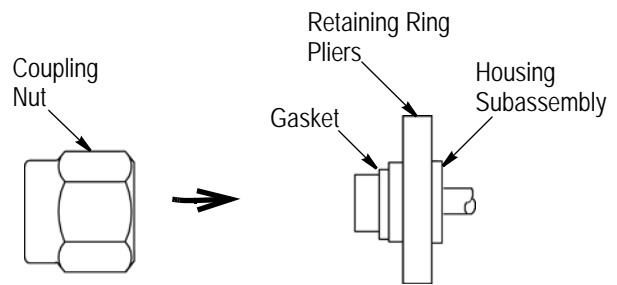

Figure 9
17. Push the coupling nut onto the housing and retaining ring. The coupling nut should rotate freely. See Figure 9.